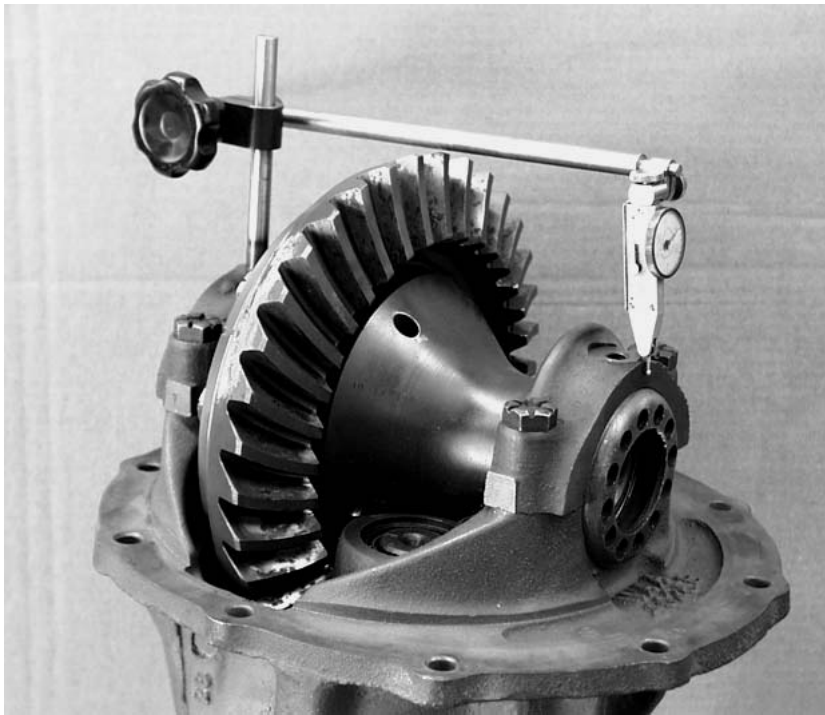

Figure 6
42. Install indicator as shown in Figure 6. Tighten RH adjuster nut until a case spread of .008 - .012 is measured. Rotate drive pinion several times in each direction to seat the bearings and to be sure that binding does not occur. It may be necessary to readjust the case spread by tightening the RH adjuster nut.